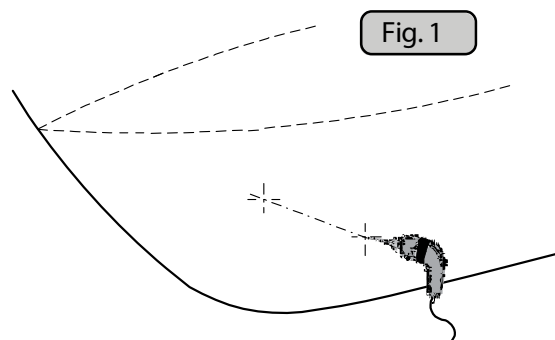

Fig. 1
1. A rounded tunnel end will prevent the creation of turbulence/ cavitation created from a sharp tunnel end when water passes by fast. **(Fig. 1&2)**.
1. Find the position in the boat considering the information earlier in this manual and the applicable measurements for the thruster model you are installing. Mark the centre of the tunnel on both sides of the hull. Drill a 6mm hole horizontally at these marks (**Fig. 1**). **(NB: it is critical that the thruster tunnel installed is perpendicular to the boats' centre line)**